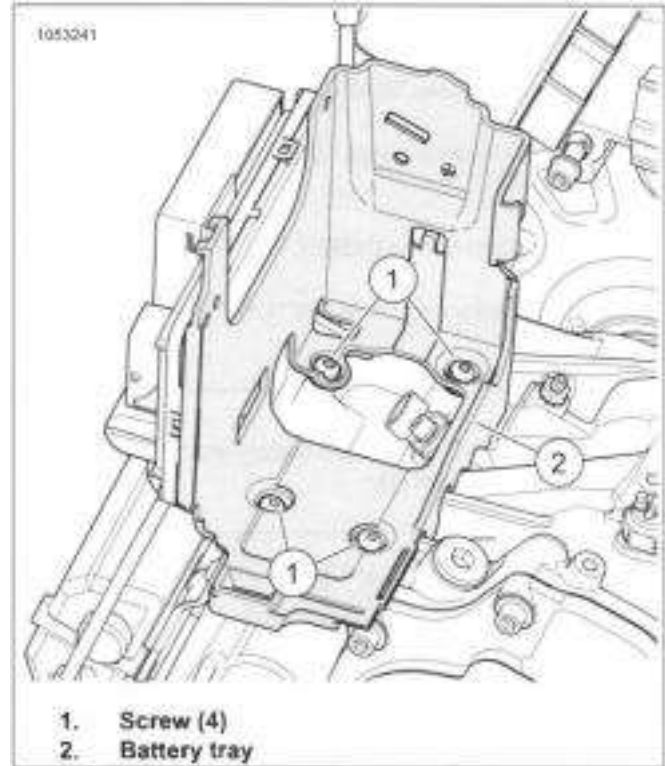

Figure 7-160. Battery Tray
3. See Figure 7-160. Remove battery tray.
- a. Remove screws (1).
- b. Remove battery tray (2).
1. See Figure 7-160. Install battery tray.
- a. Install battery tray (2).
- b. Install screws (1). Tighten.